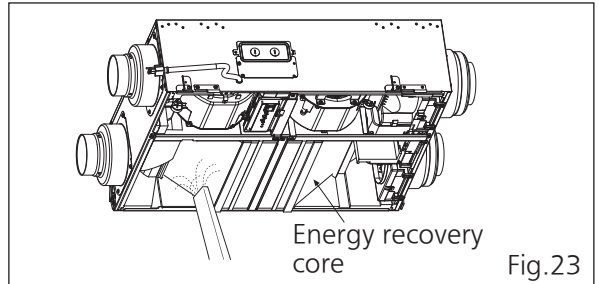

Fig.23
3. Clean energy recovery core with vacuum cleaner. (Fig.23)